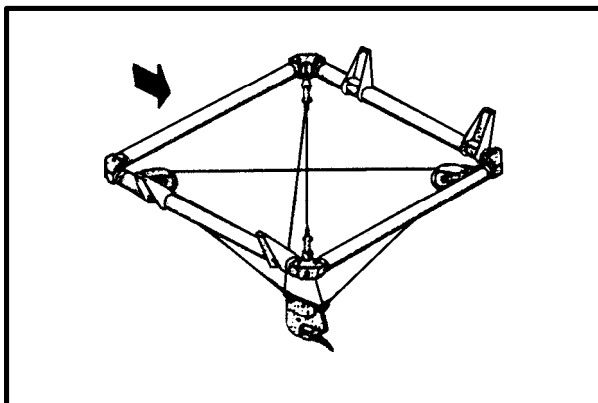

Figure 2-8. Low Response System
(2) In the low response system (Figure 2-8), the cargo hook is attached to a suspension frame through cables and pulleys.